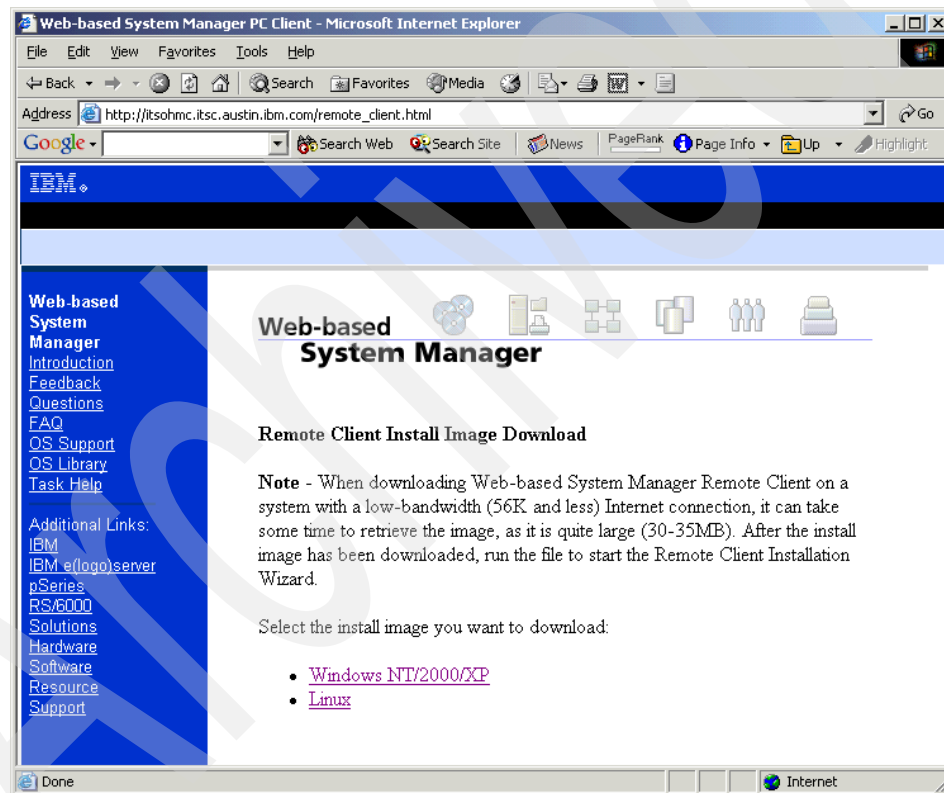

Figure 7-20 Remote client install image download
Where *host_name* is the host name of the HMC. You will see the remote client install image download page as shown in Figure 7-20.
3. Click the **Windows NT/2000/XP** link shown in Figure 7-20 to download the setup.exe file to your machine.
Where *host_name* is the host name of the HMC. You will see the remote client install image download page as shown in Figure 7-20 on page 142.
3. Click the **Linux** link shown in Figure 7-20 on page 142 to download the `wsmlinuxclient.exe` file to your machine.